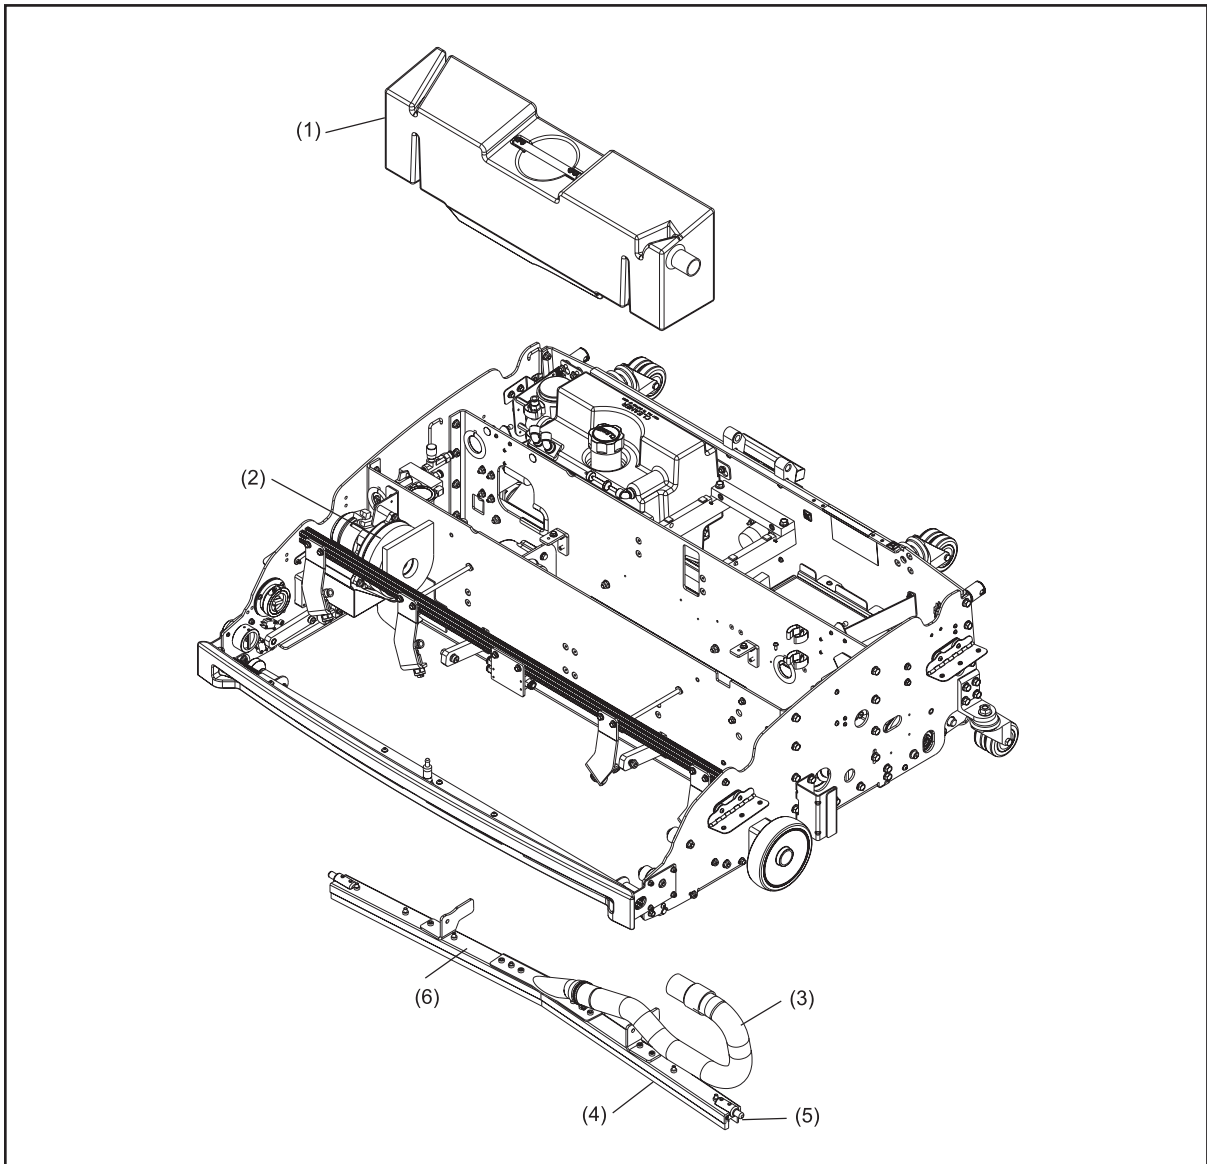

Figure 7-3. Cleaner Vacuum System
3. The absorbent wiper agitates the cleaning fluid on the lane to help loosen dirt and conditioner. Refer to Figure 7-3.